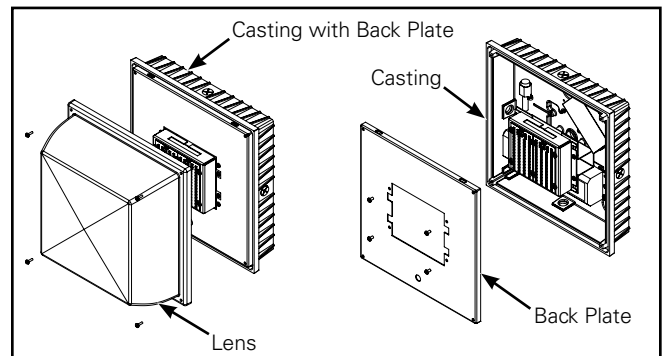

Figure 6.
- Remove back plate using Philips screwdriver (Figure 6).